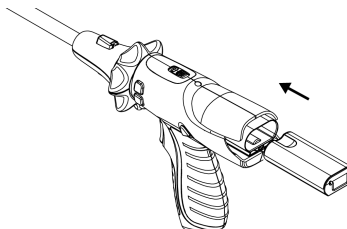

Fig. 4-2: Battery Pack Installation
2. Circulating Person unpacks the battery pack using sterile technique. And then, scrubbed person aligns the battery pack with the groove behind the Stapler, and then inserts the battery pack in the direction indicated by the arrow on the battery pack, as shown in Fig. 4-2, be careful not to touch the Stapler. Make sure the battery pack is completely inserted into the Stapler.